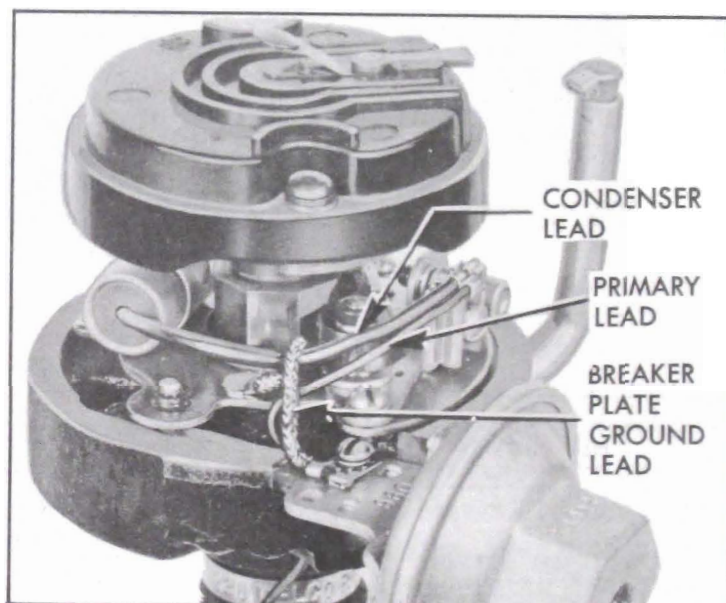

Figure 10-37—Locating Leads in Distributor
3. Install condenser and primary leads as shown in figure 10-37.